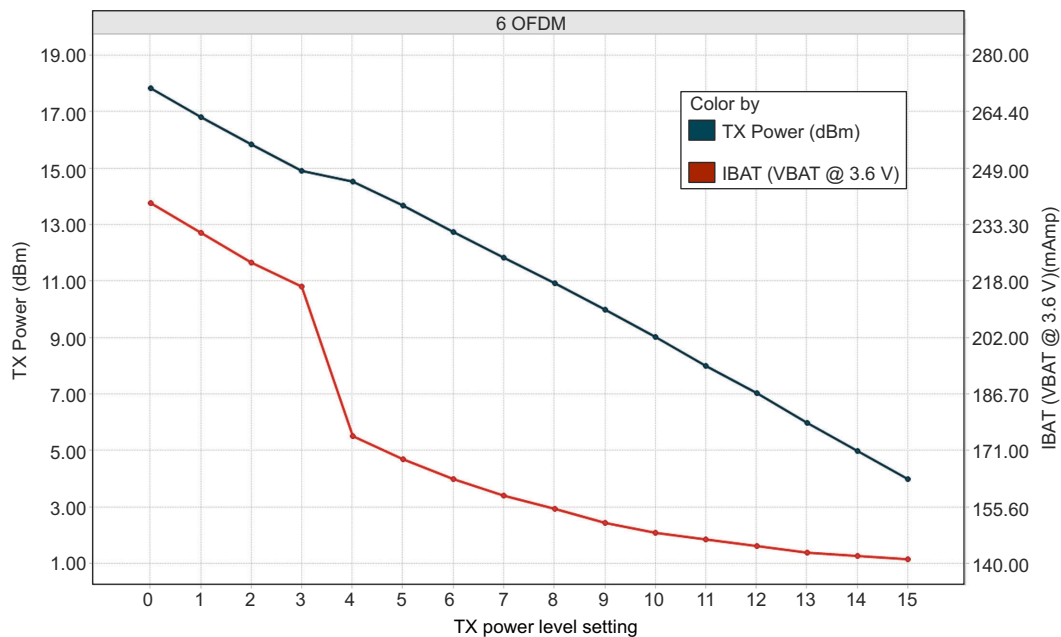
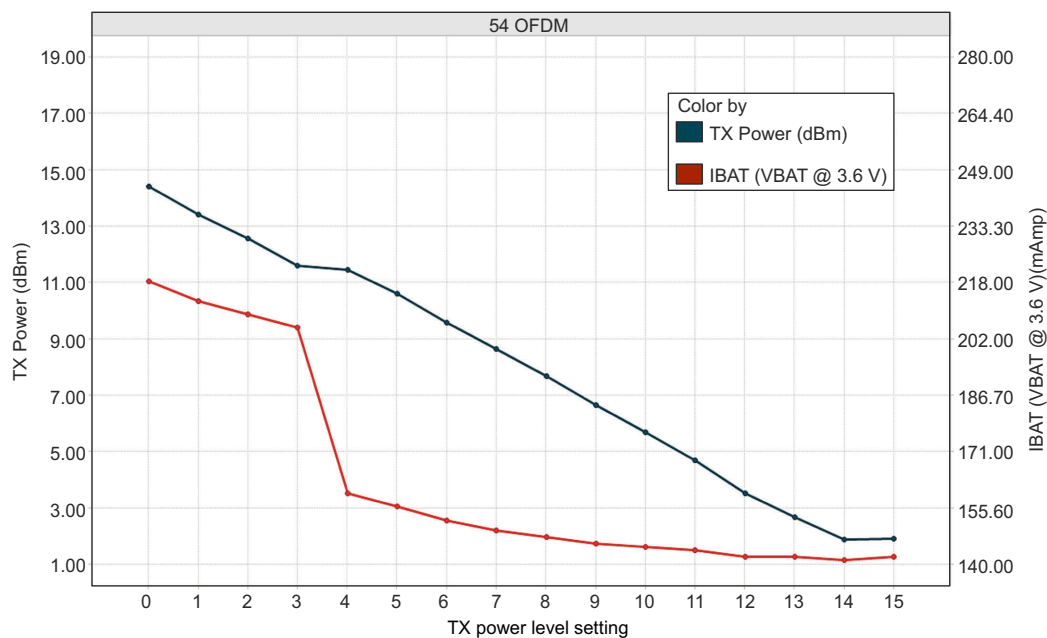

图 7-2. TX Power and IBAT vs TX Power Level Settings (6 OFDM)
图 7-3. TX Power and IBAT vs TX Power Level Settings (54 OFDM)
- (1) TX power level = 0 implies maximum power (see 图 7-1, 图 7-2, and 图 7-3). TX power level = 4 implies output power backed off approximately 4 dB.
- (2) DTIM = 1
- (3) The complete calibration can take up to 17 mJ of energy from the battery over a time of 24 ms. In default mode, calibration is performed sparingly, and typically occurs when re-enabling the NWP and when the temperature has changed by more than 20°C. There are two additional calibration modes that may be used to reduced or completely eliminate the calibration event. For further details, see CC3120, CC3220 SimpleLink™ Wi-Fi® and IoT Network Processor Programmer's Guide.
- (4) The CC3120R system is a constant power-source system. The active current numbers scale based on the V_{BAT} voltage supplied.
- (5) For the 1.85-V mode, the hibernate current is higher by 50 μA across all operating modes because of leakage into the PA and analog power inputs.
- (6) The RX current is measured with a 1-Mbps throughput rate.